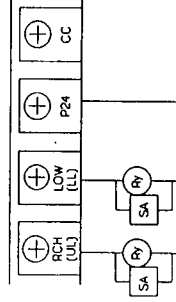
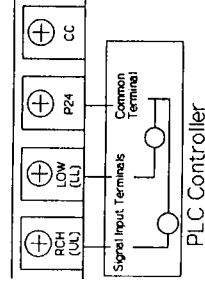

Figure 10.1 Example of a Speed-Reached Signal with External Relay
Figure 10.2 Example of a Speed-Reached Signal with a Programmable Logic Controller
The "speed reached signal connection" example using a relay is shown in Figure 10.1. The "speed reached signal connection" example using a programmable controller is shown in Figure 10.2. Toshiba strongly recommends the use of a surge absorption device (SA) around the coil of external output relays.